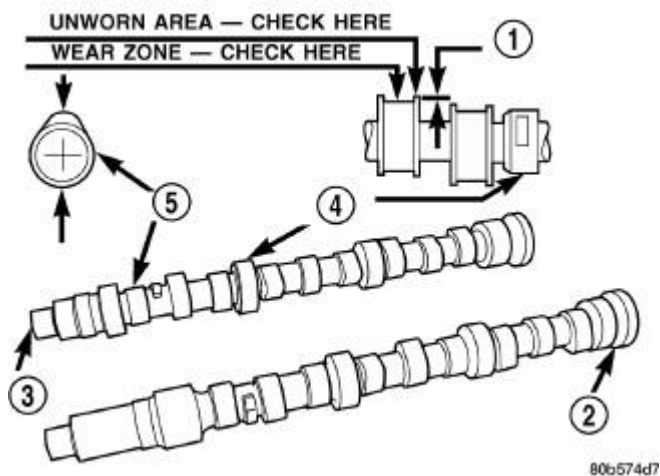

Fig. 168: Camshaft Inspection
3. Measure the lobe (5) actual wear and replace camshaft if out of limit. Refer to **Fig. 168**. Standard value is 0.0254 mm (0.001 in.), wear **limit** is 0.254 mm (0.010 in.).